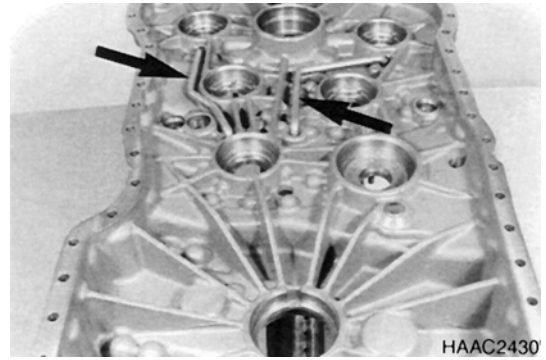

Figure 164
13. Insert both oil pipes (Figure 164) into the housing cover, tilt housing cover 180° and roll in oil pipes into the housing bores.